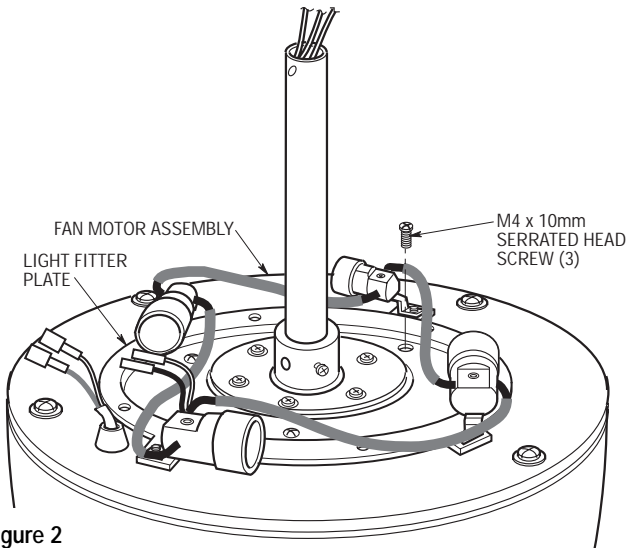

Figure 2
2. Position the light fitter plate onto the fan motor assembly using three M4 x 10mm serrated head screws (Figure 2).